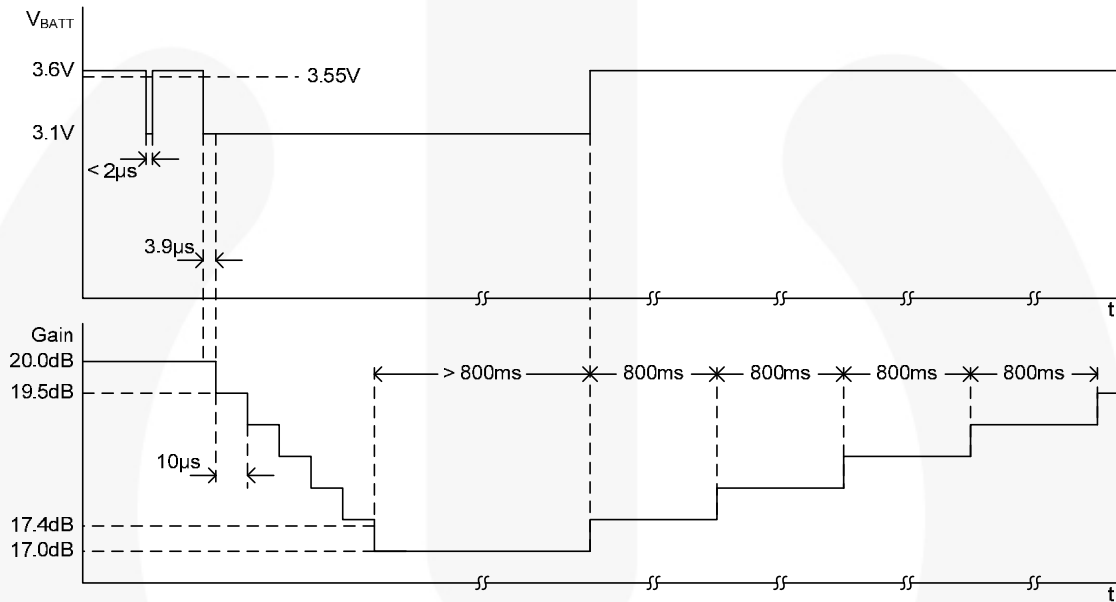
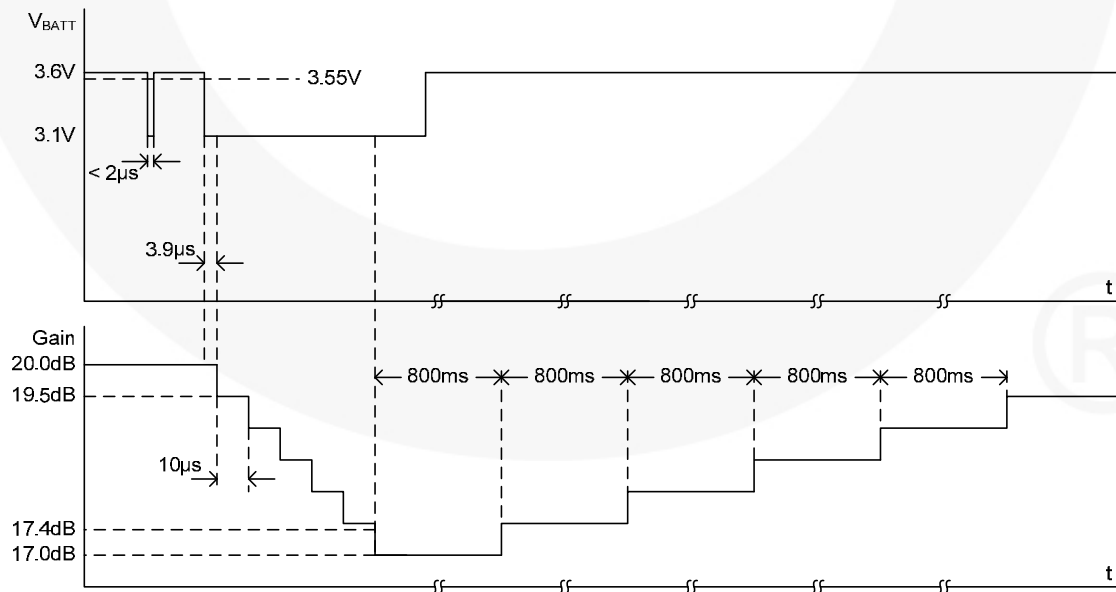

Figure 24. AGC Changes vs. Time, Example 1
Figure 25. AGC Changes vs. Time, Example 2
Figure 24 and Figure 25 show examples of AGC changes over time. In these examples, AGCT is grounded, so the AGC trip point is 3.55V.
- When  $V_{BATT}$  rises above the trip point, gain increases by 0.5dB. If more than 800ms has passed since the last gain change, gain does not rise until after 800ms has passed, as shown in Figure 25.